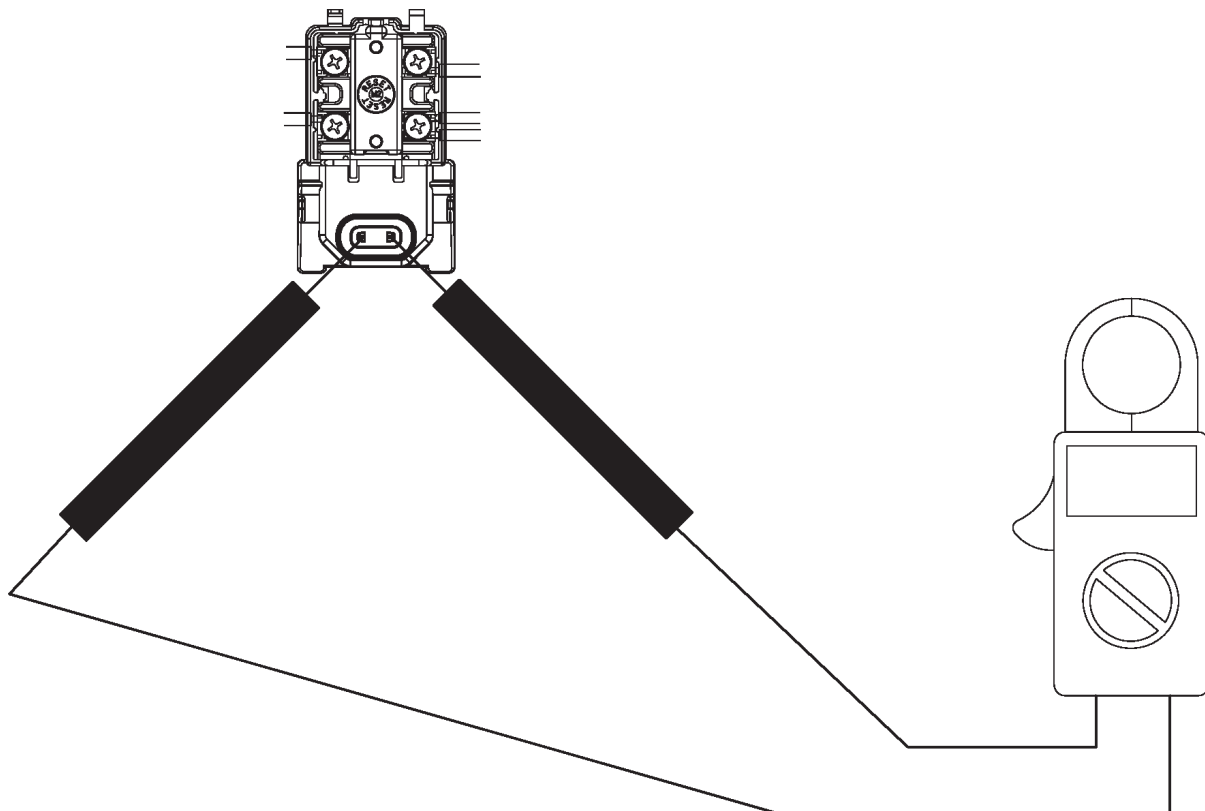

Figure 8
7. Check the resistance between the two leads (Figure 8). Depending on the tank temperature, the sensor should read between $1.2k\Omega$ and $33k\Omega$.